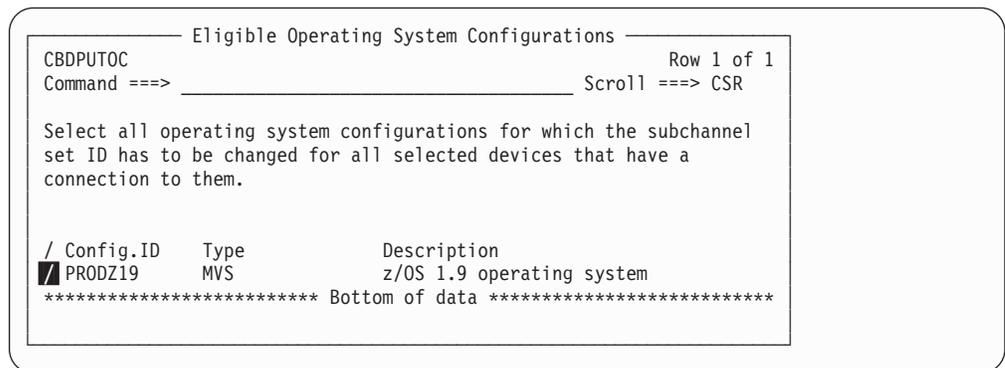

Figure 18. Eligible Operating System Configurations
4. HCD now displays panel *Eligible Operating System Configurations* (see Figure 18) where you select the operating systems for which you want to change the subchannel set ID for selected devices.